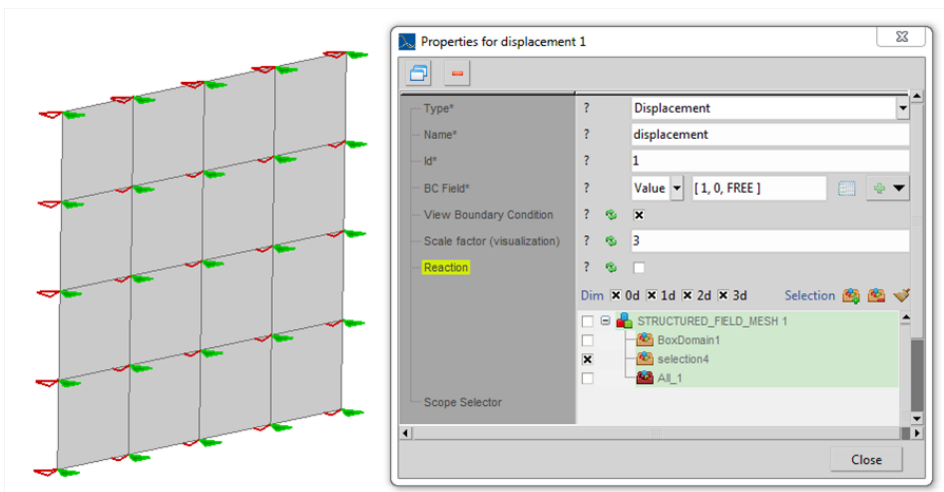

Figure 10.76: Visualization of a displacement BC
- Displacement, Rotation, Point Load and Point Moment. The visualization of these four BC's are controlled by a tick box in the BC's property window. The visualization is in form of arrow, triangle or square areas. The size of the visualization can be adjusted using the Scale Factor. Figure 10.76 shows an example of displacement visualization.